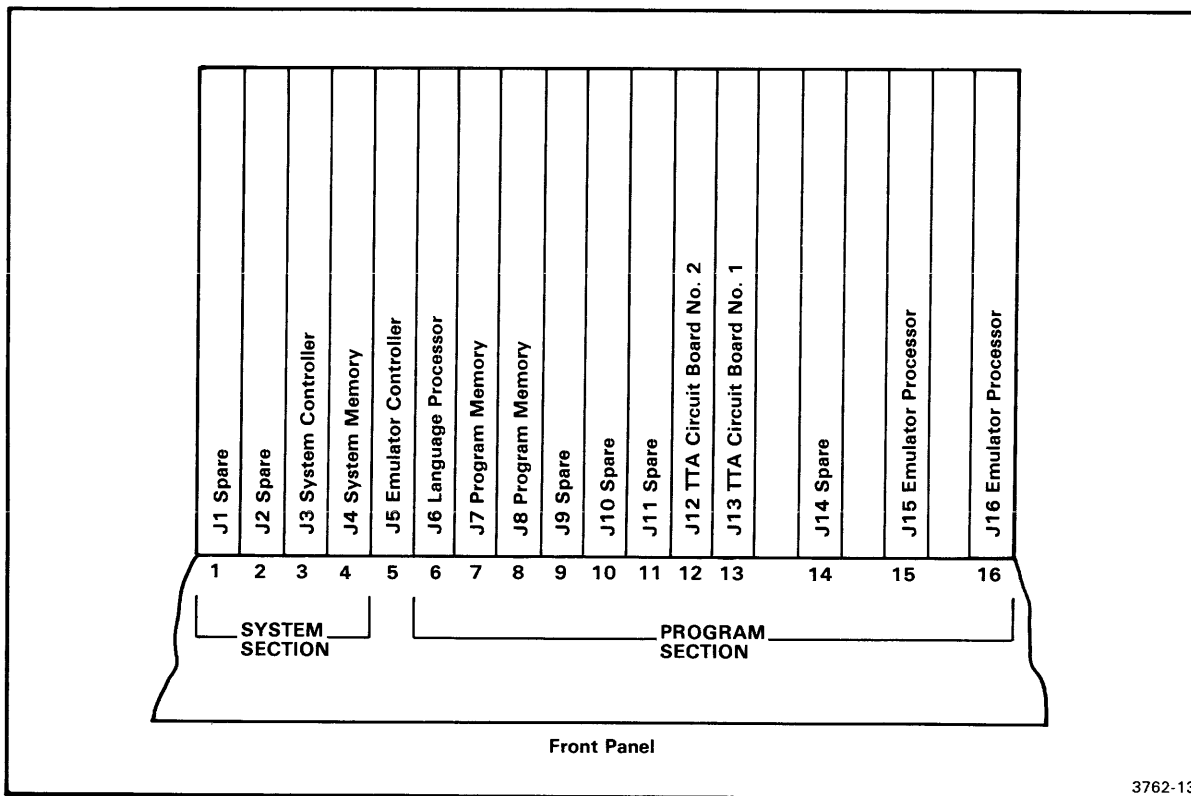

Fig. 3-2. Recommended circuit board arrangement.
2. Guide the circuit board down the vertical channels at position J13 of the microcomputer development system's Main Interconnect Board. See Fig. 3-2.
2. Guide the circuit board down the vertical channels at position J12 of the development system's Main Interconnect Board. See Fig. 3-2.